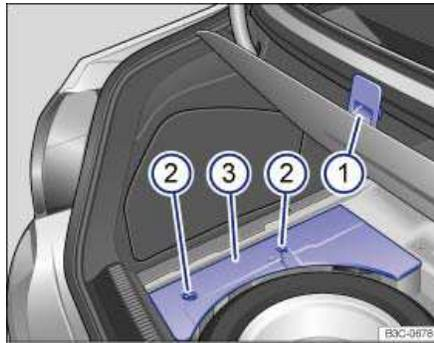

Fig. 184 In the luggage compartment underneath the floor panel 1: Spare tire and cover 3 for vehicle tool kit.
In a foam insert under the floor cover:	<ul style="list-style-type: none"> – Secure the floor cover on the top edge of the luggage compartment ⇒ fig. 184 (1). – Rotate the quick-release fasteners (2) 90° to remove the cover (3) of the vehicle tool kit.